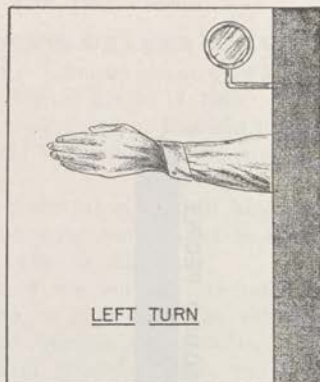

FIGURE 4.
(2) *Left turn*.—Extend left arm straight out. (See fig. 4.)